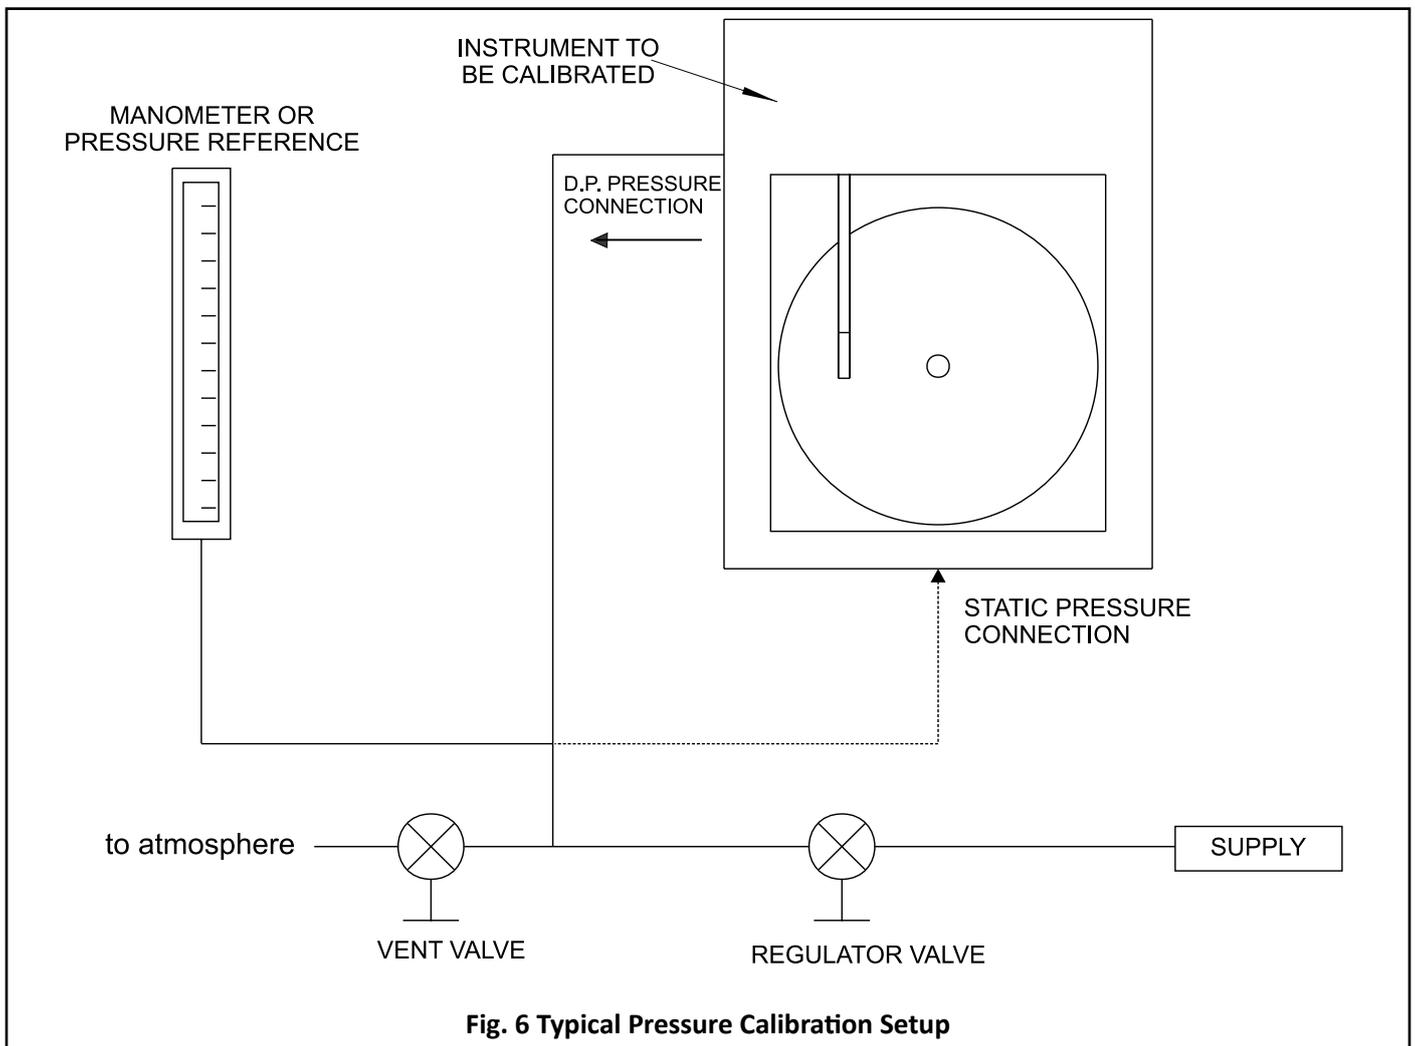

Fig. 6 Typical Pressure Calibration Setup
2. Connect the high pressure housing into the set-up shown in figure 6.